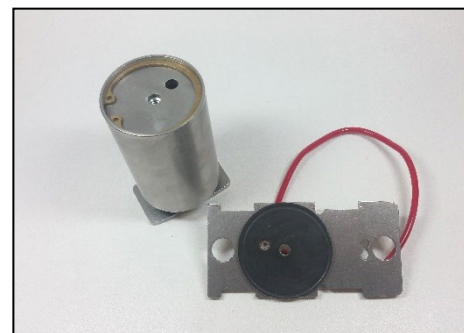

Fig 68
9. Remove the top plate by removing the screw on top of the cylinder assembly. (Fig 68)